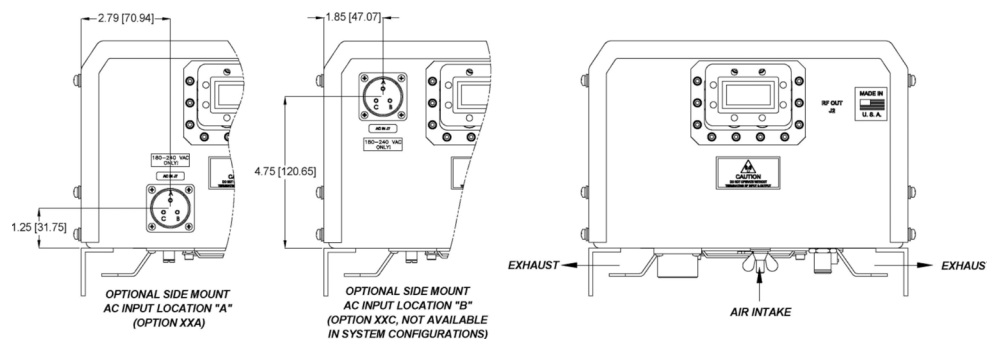

Figure 3: Outline Drawing, RF Output Side, Compact Outdoor SSPA (C-Band shown)
The RF Output is brought out through waveguide in the Compact Outdoor Amplifier. Figure 3 shows the output of a C-Band Compact Outdoor Amplifier. The Ku-Band amplifiers have a WR75 grooved flange, while the C-Band and X-Band amplifiers have CPR style grooved flanges (CPRG-137 for C-Band; CPRG-112 for X-Band). Ka-Band amplifiers utilize a WR28 grooved flange. S-Band units are fitted with Type N (F) connectors at the RF Output.